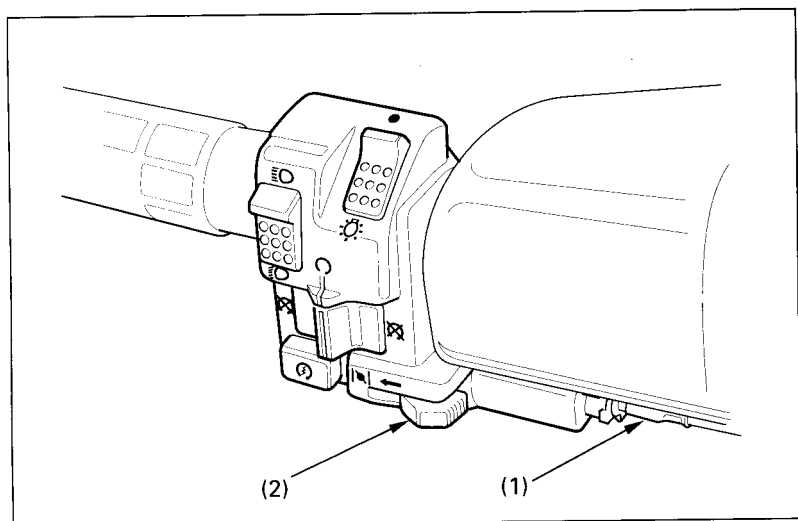

Fig. 4-8 (1) Choke cable (2) Choke lever
Check the condition of the choke cable (Fig. 4-8) and the operation of the choke lever (2). If the cable is damaged or kinked, have it replaced by your Honda dealer.